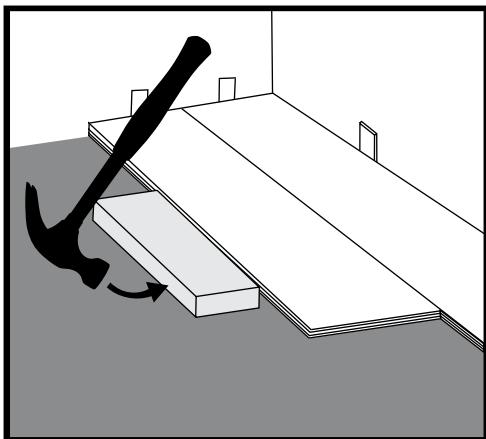

Figure 4
- Then, use a hammer and tapping block to secure long side of the planks together. Be sure to tap on the edge of the vinyl so as not to damage locking profile. (See figure 4.)